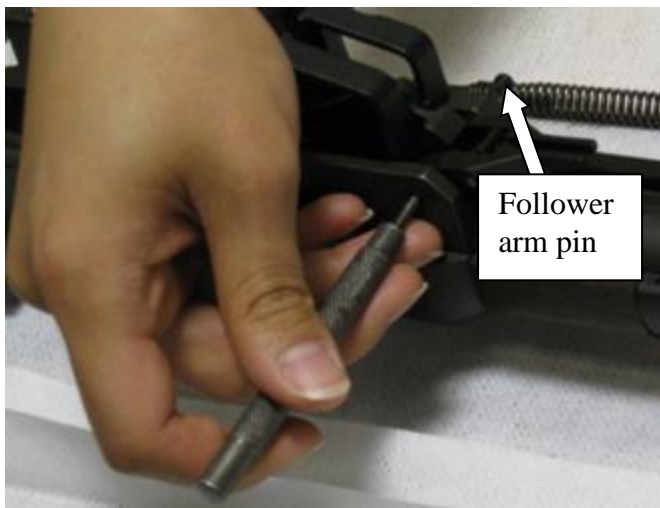

Figure 15. Removal of follower arm pin
- Using a 1/8 inch punch, remove the follower arm pin by pushing on it from the small side of the pin (the left side of the rifle when it is upright and pointed downrange). The large end of the pin can then be grasped and fully removed (fig 15).